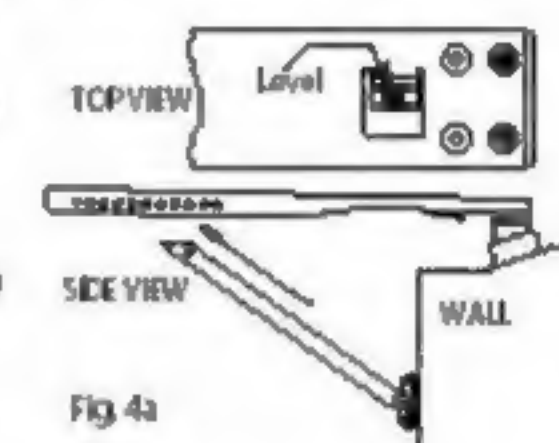
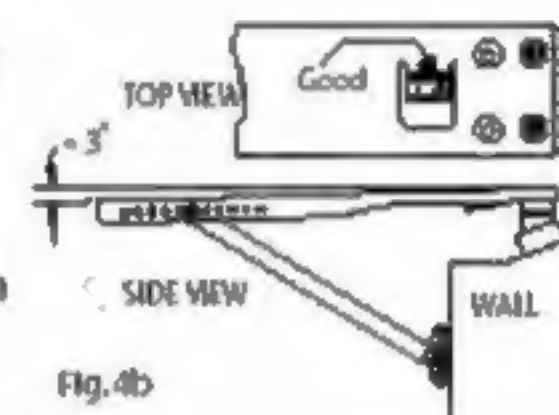
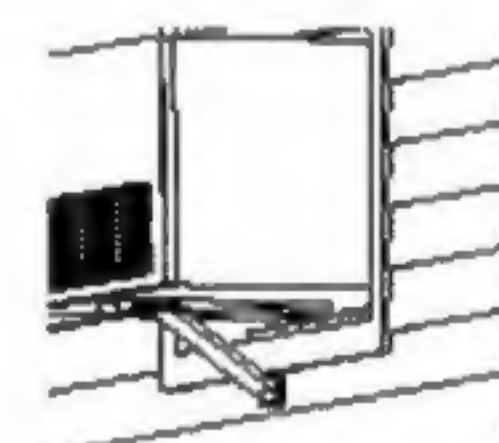

Fig. 4a
Fig. 4b
Fig. 4c
- 4) Setting Angle: place angled end of leg flat against underside of body; aligning leg holes with middle holes in side of body; position foot pad of leg flat against exterior surface; slide leg in or out along underside of body and exterior surface until bubble in level is centered Figure 4a; gradually slide leg toward outer end of body until bubble in level moves off center towards you - Figure 4b; align leg holes with closest holes in body and insert -20 x 3 bolt (#14) thru all holes, temporarily securing leg to body; check bubble and if necessary readjust leg one set of holes away from you; unit should now be self-supporting against outside surface with a slight downward tilt - Figure 4c.